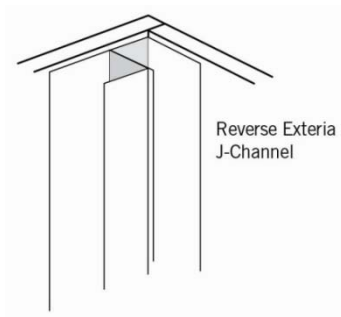

Figure 7
**STEP TEN:** Exteria ¾" J-Channels may be used for inside corner treatments. It is recommended to sleeve the corner with vinyl or aluminum coil prior to installation of panels (Figures 7 and 8).